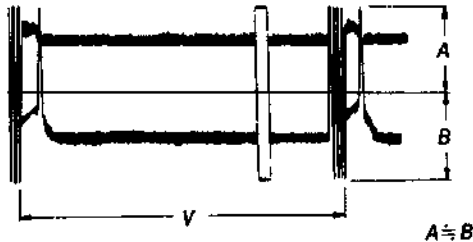

Fig. 5-25. Y-comb adjustment
| Specified Value | See Fig. 5-25 A level \approx B level |
- Rotate RV017 to adjust to that the limiter works vertically symmetrically (See Fig. 5-25)